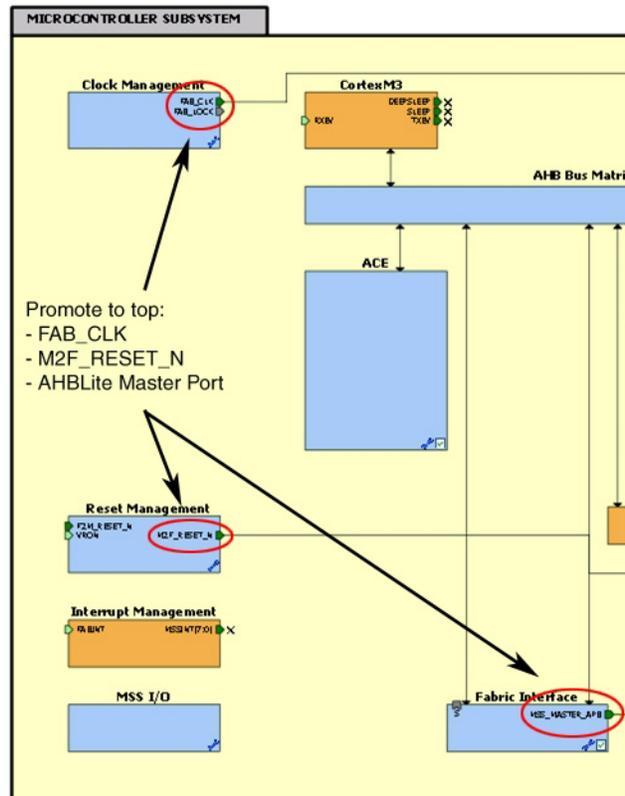

Figure 1-3 · Promote FAB\_CLK, M2F\_RESET\_N and APB3 Master Port
Step 3. Promote the Fabric Interface AHBLite Bus Interface (BIF) master port (as shown in Figure 1-3).
Step 4. Promote FAB\_CLK to make it a port (as shown in Figure 1-3).